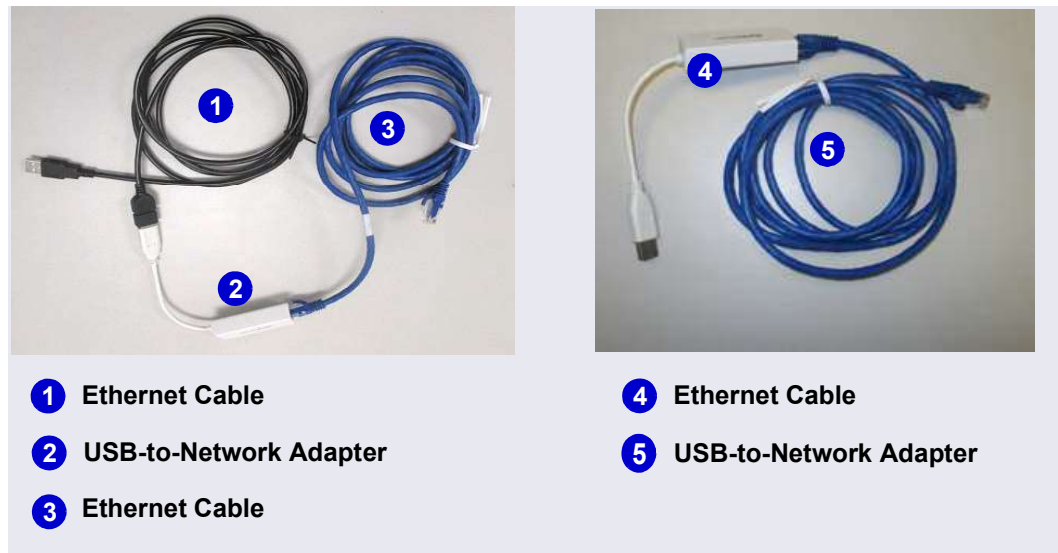

Figure 3-32. Tablet Cable Options
2. Assemble the cable(s) required to connect the tablet USB port to the network adapter (see Figure 3-32). The parts are provided in the Tablet Connectivity Kit (P/N 22181-62017).